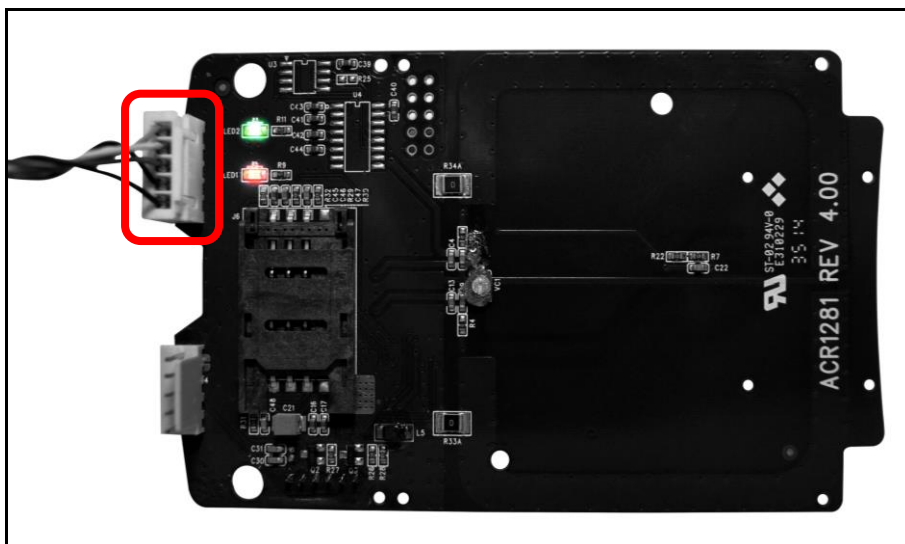

Figure 6: ACM1281S-C via Serial Interface
1. Connection socket **J5** via RS-232 cable to another peripheral device (see **Figure 6**).